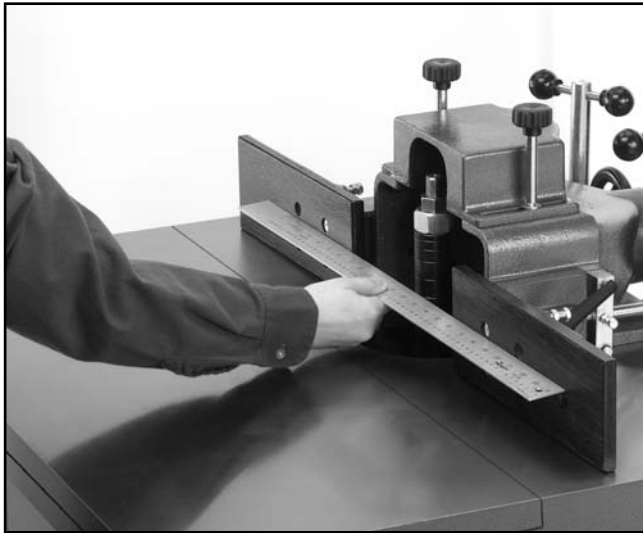

Figure 28. Aligning fences with straightedge.
2. To align the wood facing, adjust one or both fence halves so they are in close alignment. Micro-adjust and check the alignment with a straightedge as shown in **Figure 28**.